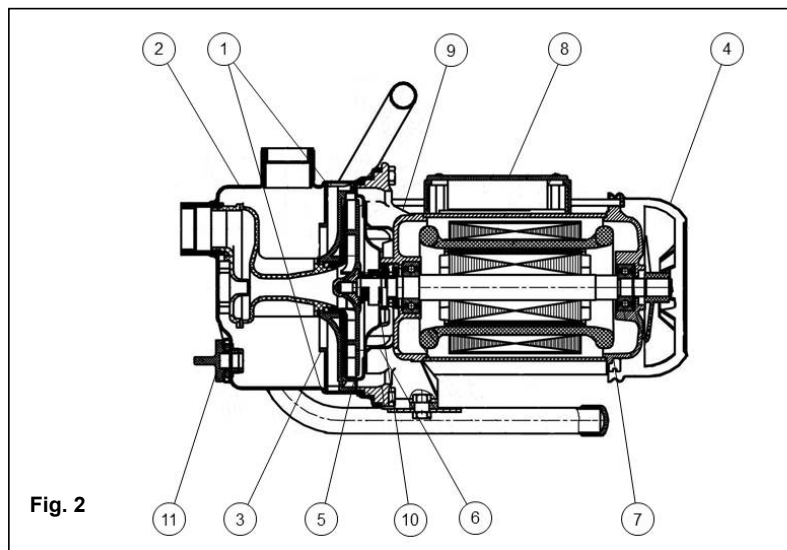

Fig. 2
- b) **Replacing Mechanical Seal: (See Fig. 2)**
- 3) Remove the drain (11) and prime plugs to allow the pump to drain.
- 4) Remove the 4 bolts (1) and remove casing (2).
- 5) Pry the diffuser (3) out of the casing using 2 slotted screwdrivers for leverage.
- 6) Remove fan shroud (4) and insert a screwdriver into the slot in the shaft to prevent it from turning while unscrewing the impeller (5) in counter-clockwise direction.
- 7) Slip the rotating seal (6) off the shaft.
- 8) Remove motor tie bolts (7) and remove motor (8) from adapter (9) by slightly tapping end of motor shaft with a mallet.
- 9) Remove the ceramic seal seat (10) from adapter (9).